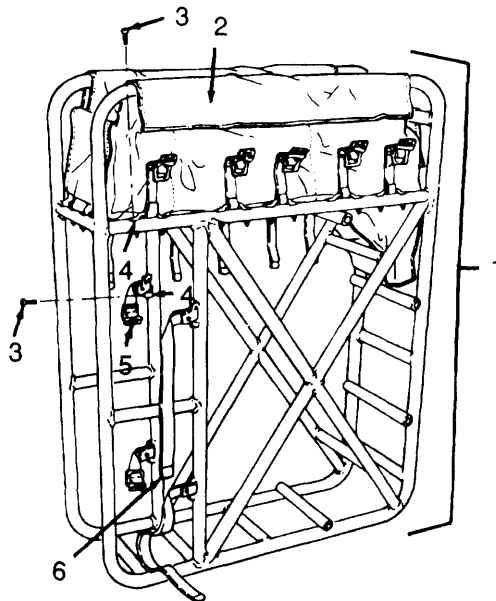

Figure 4-17. Frame Assembly, Removal/Installation.
- a. Removal. (Refer to Figure 4-17.)
- (1) Remove discharge hose from frame (1).
- (2) Remove contents from container (2).
- (1) Refer to Figure 4-17 and install contents in container (2).
- (2) Install discharge hose on frame (1).